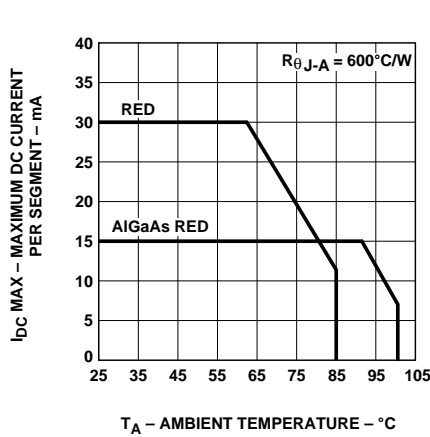

Figure 3. Maximum Allowable DC Current vs. Ambient Temperature.  $T_{JMAX} = 100^{\circ}C$  for Red and  $T_{JMAX} = 110^{\circ}C$  for AlGaAs Red.
- Derate maximum DC current for Red above  $T_A = 62^\circ\text{C}$  at 0.79 mA/°C, and AlGaAs Red above  $T_A = 91^\circ\text{C}$  at 0.8 mA/°C. See Figure 3.